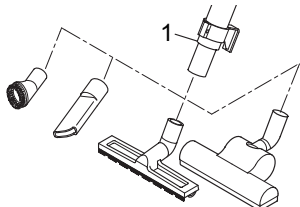

Fig. 9
3. Push the desired nozzle onto the lower end of the telescopic tube or if necessary directly onto the handle (Fig. 9).